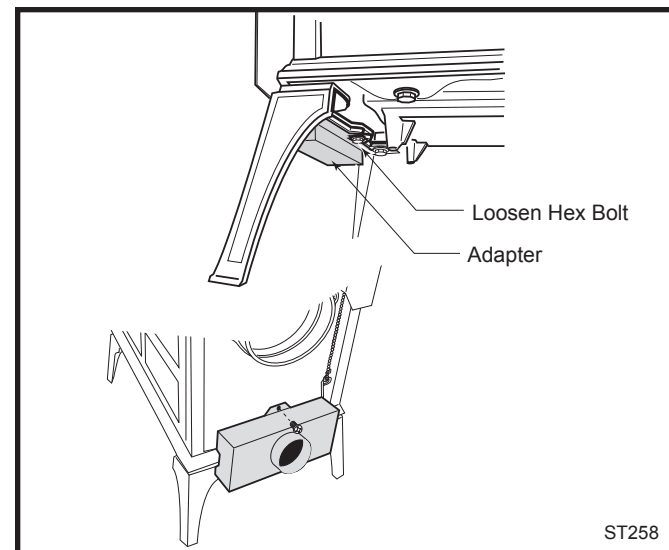

Fig. 14 Attach the adapter to the bottom plate.
2. Locate the hex bolt (Fig. 14) located in the center rear edge of the stove bottom plate. Loosen this bolt just enough to engage the Adapter clevis tab under the washer and then retighten.
3. If you are not installing a Rear Heat Shield, use the phillips head screw to secure the upper flange of the Adapter to the stove at the hole from which the screw was removed in Step 1. (Fig. 14) Otherwise, a heat shield spacer will be used here. (See “Install the Rear Heat Shield”, below.)